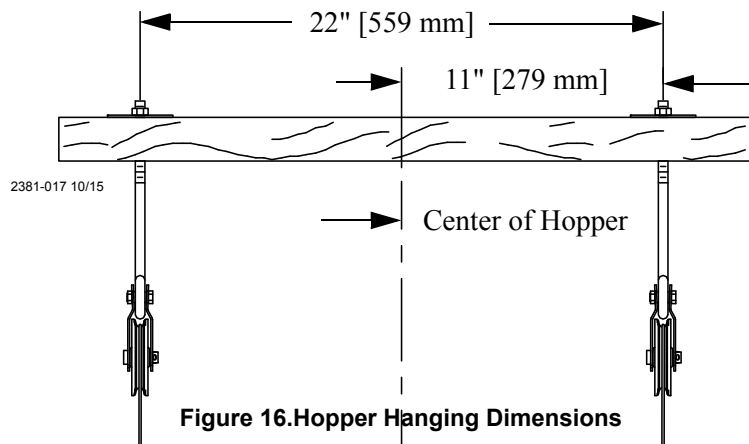

Figure 16.Hopper Hanging Dimensions
- Install two pulleys to either a 2" x 8" [50x200 mm] board that will span at least 3 rafters or a 3/8" [9.5 mm] thick steel plate welded to two pieces of angle iron that are long enough to span at least 2 rafters. Install the pulleys directly above the feeder line where the hopper is to be located. The pulleys should be spaced 22" [559mm] apart (11" [279 mm] from the center of the hopper in both directions), **see figure 16.**